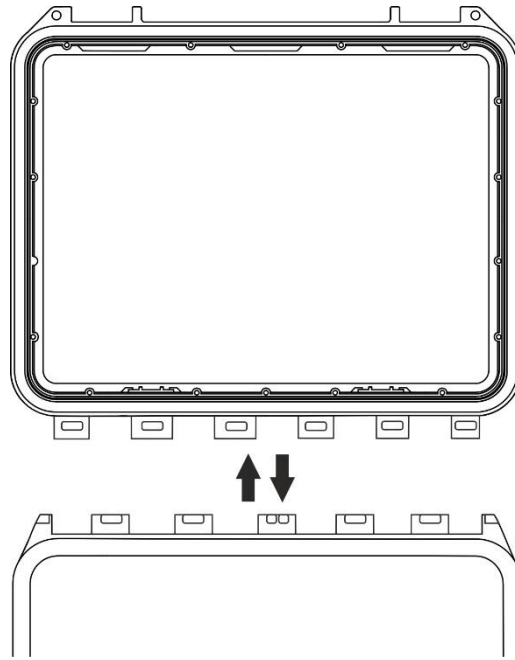

Fig. 7: Removing the cover from the instrument case - Step 3
3. Remove the case cover from its housing as shown in Fig. 7